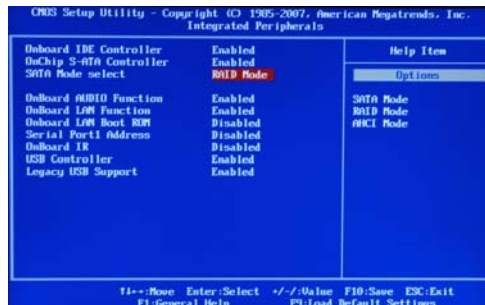

Figure 1.2 Integrated Peripherals Window
- 3 From the Integrated Peripherals Window, globally set SATA Mode select to RAID Mode (see Figure 1.2).